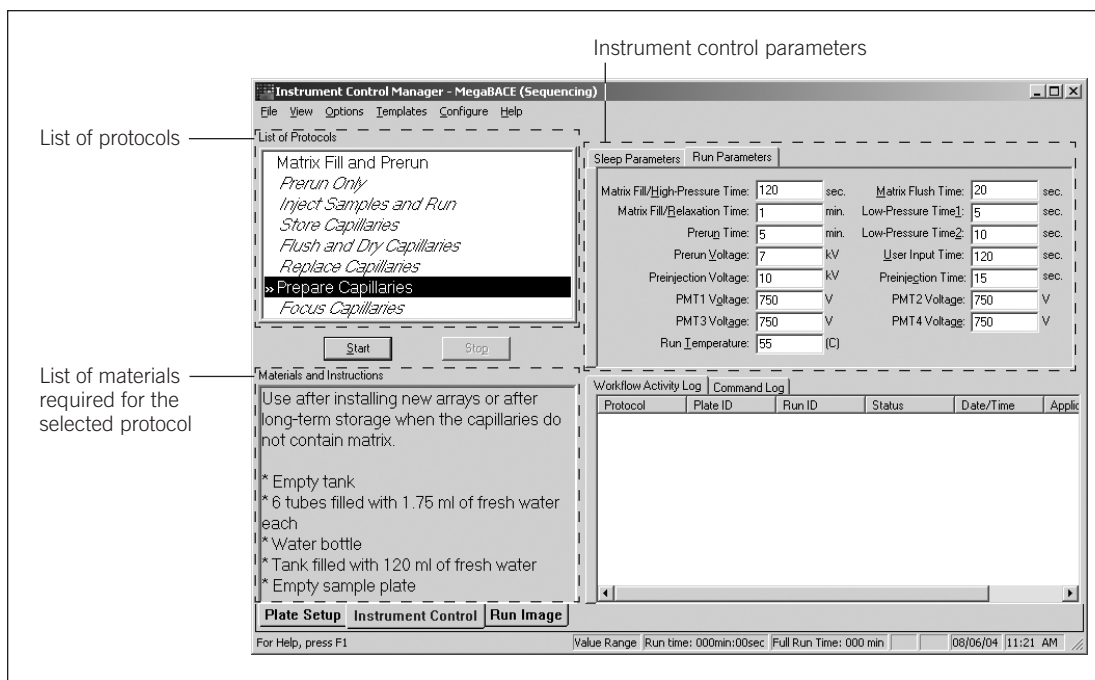

Figure 3-3. The Instrument Control window.
The Instrument Control window (figure 3-3) in the Instrument Control Manager displays the instrument control parameters. To display the Instrument Control window, click the **Instrument Control** tab. The instrument control parameters include the run parameters and the sleep parameters.
1. In the Instrument Control window (figure 3-3), with the **Prepare Capillaries** protocol selected, click **Start**.